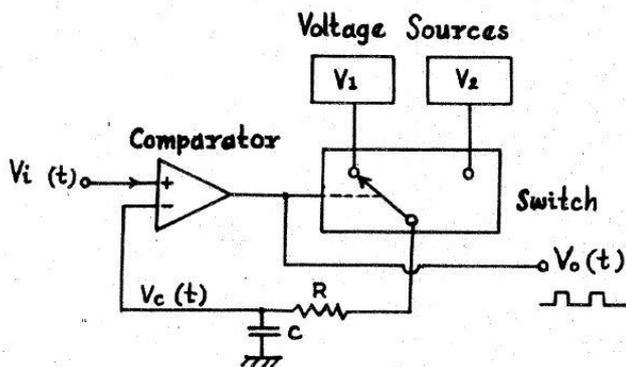

Fig. 1. Nonlinear modulator.
3. A 10 k resistor needs to be soldered from the left pad of the 470k resistor to +V, easiest is the closest pin of the nearby transistor. See figure 1 below.